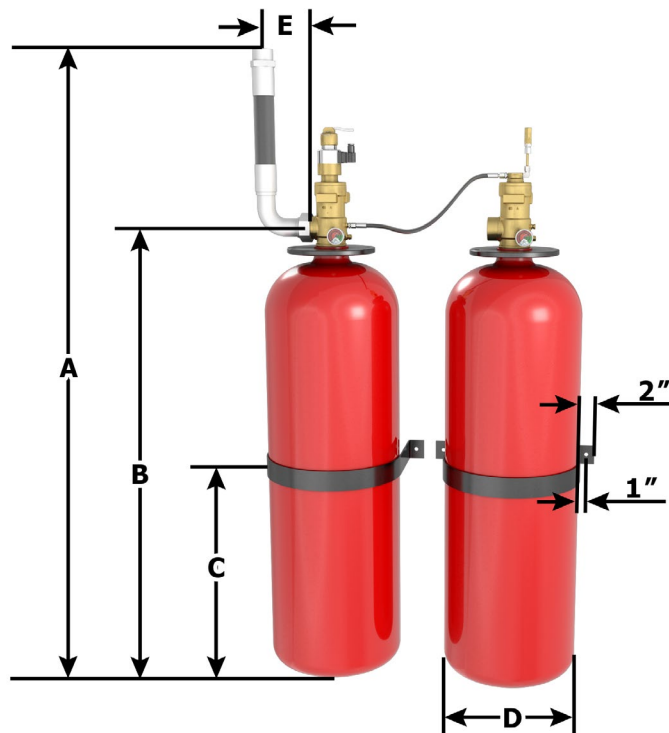

Figure 3
***Components required in addition to the items indicated in Figure 3 for a Single Container System.